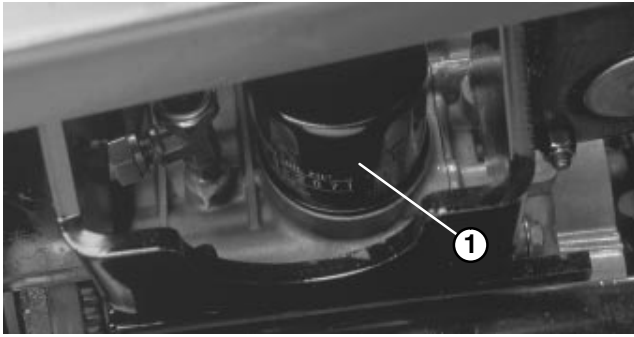

Figure 28
5. Remove and replace oil filter (Fig. 28); refer to parts catalog for part number.